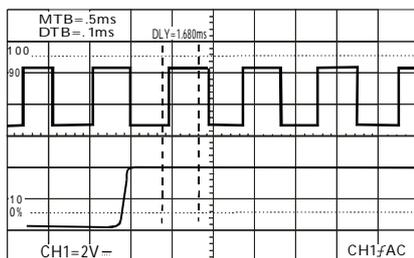

Figure 5-9 ALT Mode
2. Set the MAIN/ALT/DELAY button to ALT mode, and set the time range of the DELAY TIME/DIVE control to be magnified. The figure 5-9 below shows the main and delayed sweeps appear simultaneously on the screen, and the window sector will appear.